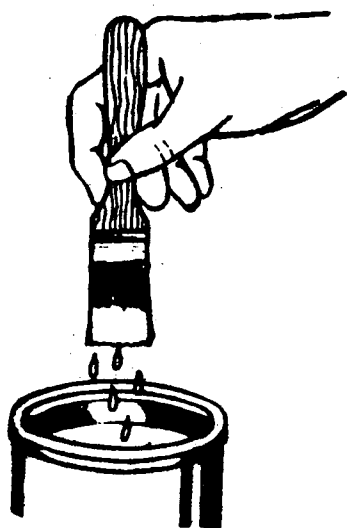

Fig. 1
- b) Drain off the excess paint and invert it rapidly (Fig. 1).